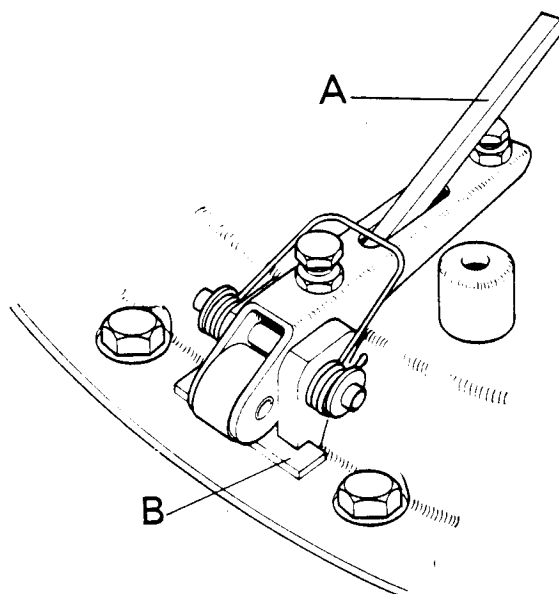

Figure 17.
11. Before removing clutch from baseplate, replace transit blocks —  $\frac{3}{4}$  in.  $\times$   $\frac{1}{2}$  in.  $\times$  2 in. (2.38  $\times$  12.7  $\times$  50.8 mm) — between cover and pressure plate at the heel of release levers to prevent thrust springs expanding too far as shown in Fig. 17.